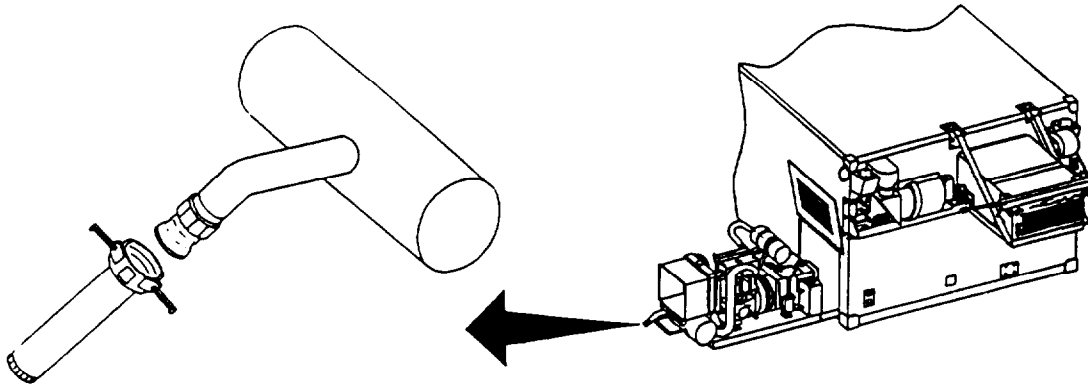

Figure 2-2. Exhaust Hose Extension
(1) Connect exhaust hose extension (Item 13, appendix C) to the output exhaust of the generator. See figure 2-2.